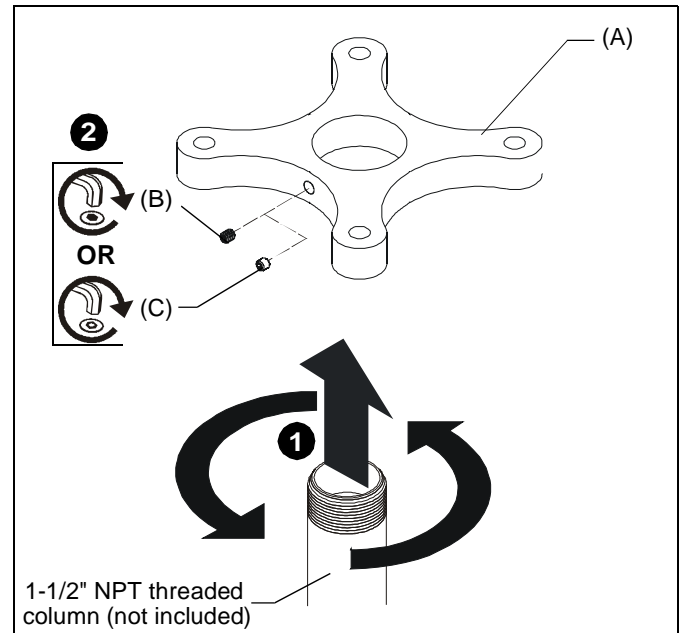

Figure 6
1. Install 1-1/2" NPT or NPSM following ANSI/ASME B1.20.1 (Schedule 40, 0.154" minimum thickness steel or aluminum - ASTM B221) threaded extension column (not included) into threaded collar of CMA101 until tight, with a minimum of four threads engaged. (See Figure 6)
2. Install 5/16-18 x 3/8" set screw (B) [OPTIONAL: Use one 5/16-18 x 5/16" security set screw (C) for security installation] into hole on ceiling plate (A) to secure pipe to mount. (See Figure 6)